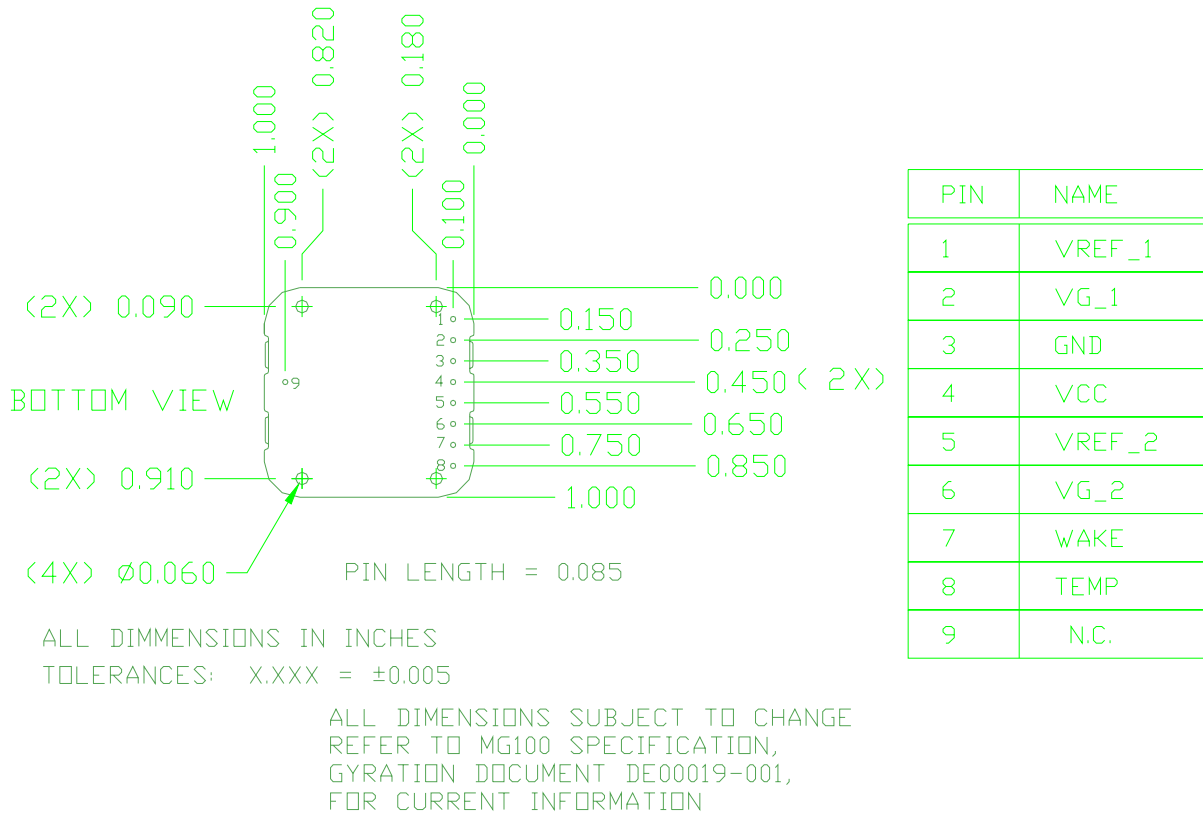

Figure 2: MicroGyro 100 Footprint
All of the MG100 output pins are situated on 0.100" centers, so that its pin locations are compatible with many existing prototype hole patterns and grids for integrated circuits. Refer to Figure 2 below for the footprint diagram.
- The **OUT_A** and **OUT_B** pins are filter taps on the **INA+/-** and **INB+/-** channels after analog amplification but before digital conversion. The series resistors on the amplifier output (R114 and R102 shown in Figure 2) are 100K. By attaching capacitors to the **OUT_A** and **OUT_B** pins you can provide additional filtering to the analog signals, thereby greatly improving the signal-to-noise ratio of your data.